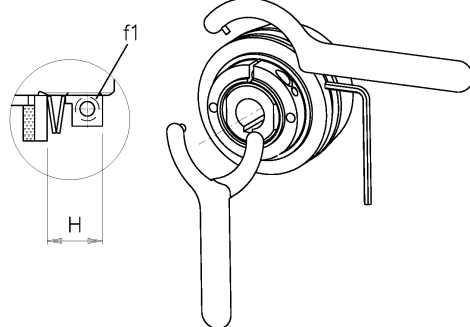

FIG. 11 : DF – GR
**GHIERA CON BLOCCAGGIO RADIALE "GR"** (Gr.00.38-5.170 ; FIG.11 pos.fl)
**RADIAL LOCKING NUT "GR"** (size 00.38-5.170 ; FIG. 11 pos.fl)